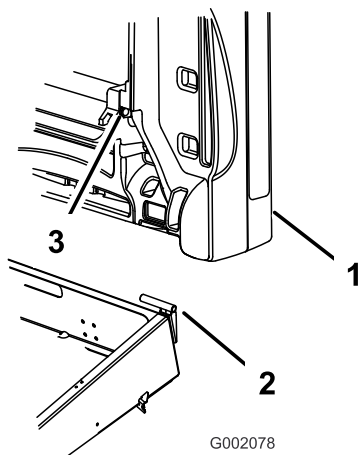

Figure 9
3. Slide the cargo box mounting hole onto the pivot bracket (Figure 9).